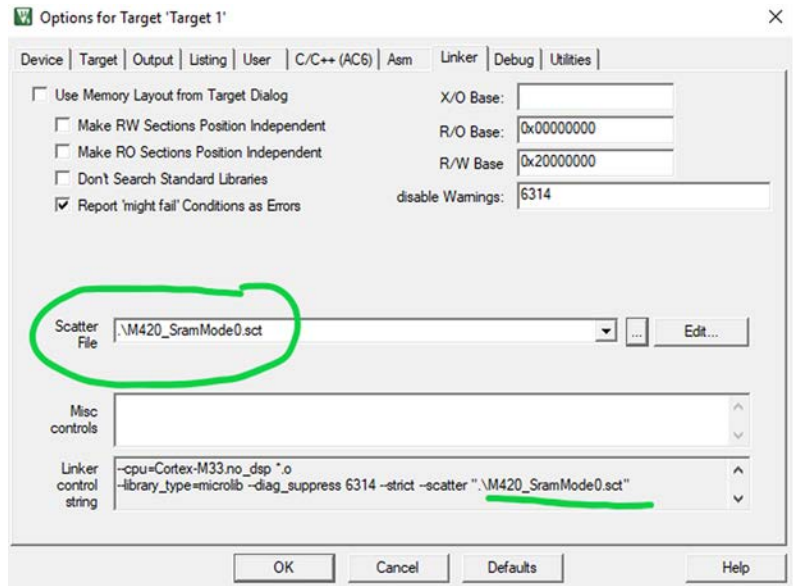

Figure 37. Keil SRAM Output Mode 0
3. After following Step 1 and Step 2, proceed to set up the .sct file located in **Flash > Configure Flash Tools > Linker**. Refer to Figure 37 to check the settings highlighted in green are correct and that the correct scatter file is chosen (based on the SRAM mode configuration).